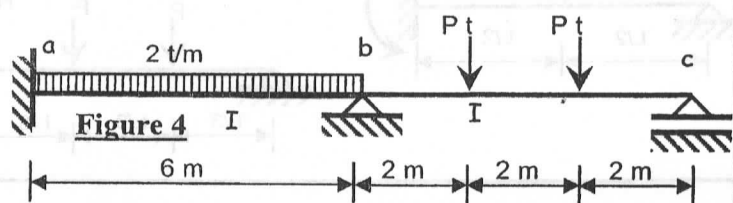

Figure 4
Using the slope deflection method, find the value of force P such that the maximum negative moment at b equals the maximum positive moment in span bc, further draw the B.M.D. and S.F.D for the given beam in Figure 4.
v) Fig.4 shows a plan of a beam with cantilever ABC supports a concentrated load 40kN at C. The beam carries two cantilevers ED and BF. A cantilevers ED and BF support concentrated loads 80kN at its ends. It is required to draw the **B.M.D, S.F.D and T.M.D** of the beam ABC in two cases: i- the supports A and B are restrained against rotation about z axis; ii- the support A is restrained against rotation about z axis. Determine the reactions of the supports A and B for the two cases. (9marks)